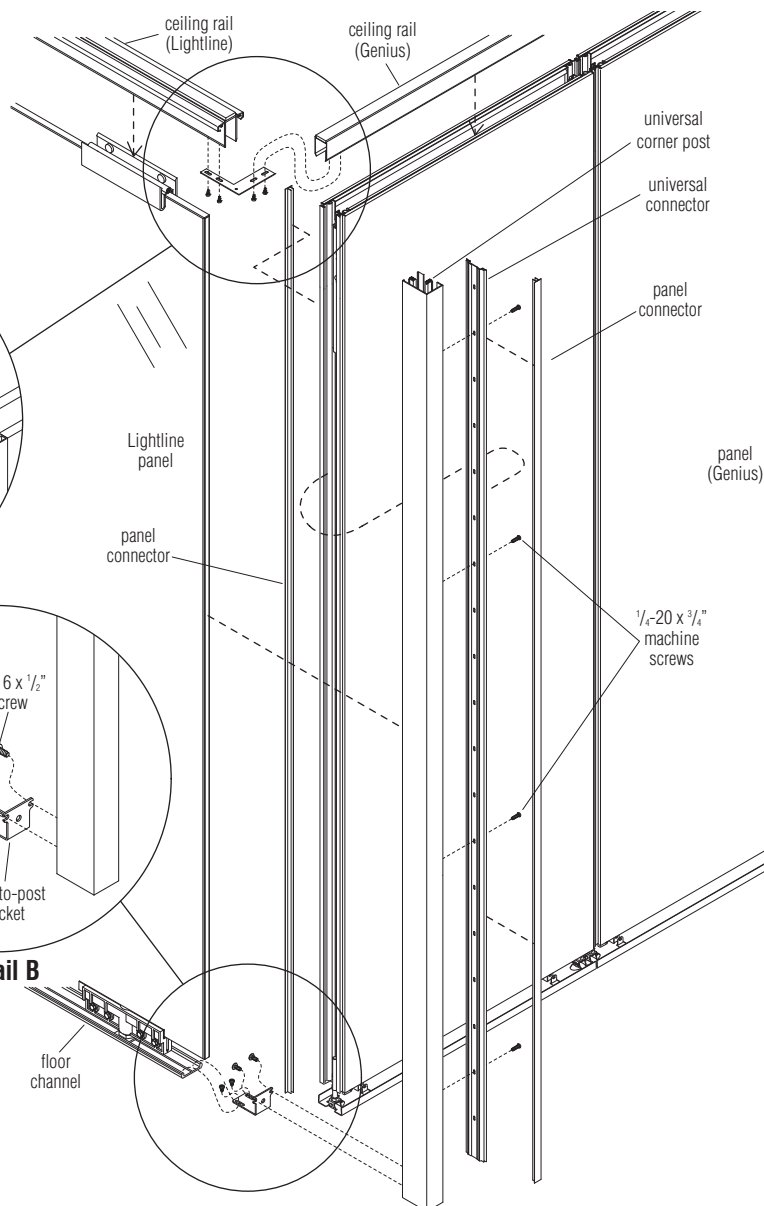

Figure 1
3. To determine the length that a universal post must be cut to, first place a piece of ceiling trim onto the ceiling rail and measure from the top of the trim, down to the floor at post location. Make allowance for how far the universal post will sink into the carpet (if present), then cut the bottom of the post to that dimension. Stand the universal post up under the ceiling rail and confirm that the top of the post lines up with the top of the ceiling trim (Figure 1).
4. Position the universal connector flush to the top of the wider side of the universal corner post and secure using four 1/4-20 x 3/4" machine screws evenly spaced (Figure 1).
6. To connect, position a properly aligned and adjusted Genius panel to the universal connector, leaving about 1/16" gap between the two parts (Figure 1).
7. Insert two panel connectors (one at each side) even with the top of the panel. Then, with your thumb, zip each connector firmly around the panel or post flanges, pressing down to the base (Figure 1).
9. Next, prepare Lightline panel with flexible glazing seal. See Lightline Assembly Instructions "Flexible Glazing Seal at Door Frame and Posts". Once seal is installed, position a properly aligned and adjusted Lightline panel against the corner post (Figure 1).
10. Secure Lightline panel to universal post using a panel-to-post bracket. Position the panel-to-post bracket onto the continuous floor channel of the Lightline panel as illustrated. Align the bracket holes with the floor channel and secure with two screws. If securing over hard floor, use two #10-24 x 1/4" hard floor screws (V.12.0910) (shown). If installing over carpet, use two #14 x 1/2" carpet gripper screws (46.2799). Then secure the panel-to-post bracket to the corner post with two 10-16 x 1/2" screws into the post (Figure 1 & Detail B).